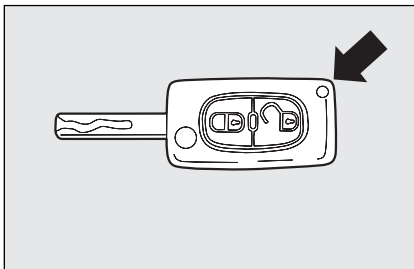
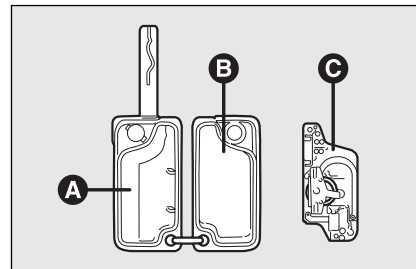

fig. 5
fig. 6
- ☐ separate the two casings **A** and **B**-fig. 6, by levering in the point shown by the arrow in fig. 5;
- ☐ take out the battery and replace it **C**-fig. 6;